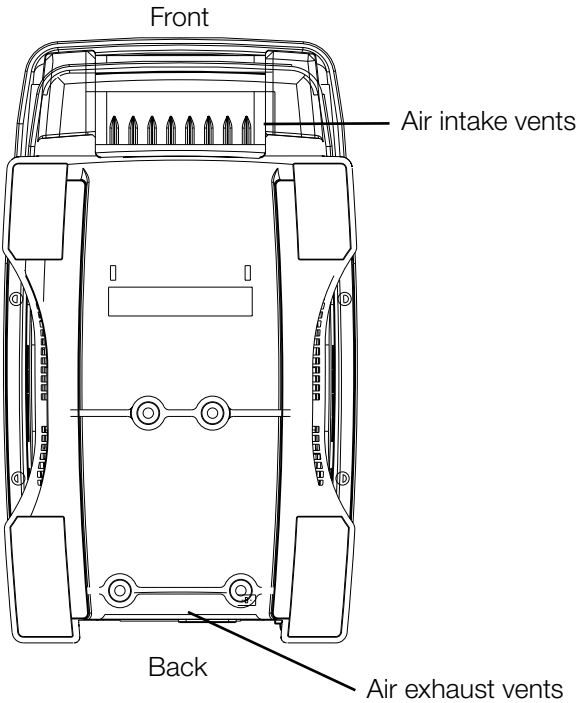

Figure 4. Bottom view of the MJ Mini thermal cycler.
Warning: Do not block the MJ Mini cycler's air vents (see Figure 4 for locations). Obstructing air vents can lead to overheating and increases the risk of electrical shock and fire.
The MJ Mini thermal cycler requires a constant supply of air. Air is taken in from vents at the front of the instrument and exhausted from vents at the back (see fig. 4). If the air supply is inadequate or too hot, the machine can overheat, causing performance problems, software error messages (particularly “HS Overheating” and “Slow Block Cycling”), and even automatic shutdowns.
- Make sure the MJ Mini thermal cycler receives air that is 31°C or cooler by measuring the temperature of air entering the machine through its air intake vents. Air intake vents are located at the front of the machine (see fig. 4).